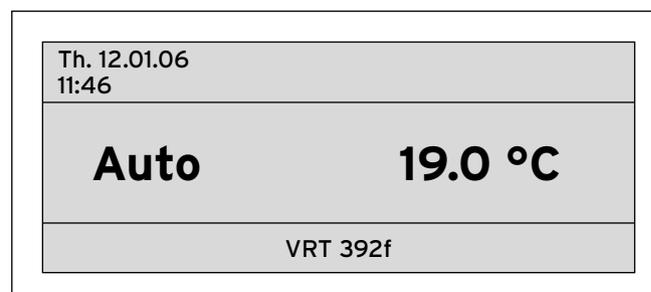

Fig. 4.8 Default display (example)
- Default display (Fig. 4.8)
In the simplified basic display (Fig. 4.8) in the central area the operating mode for the heating circuit and the internal temperature are displayed.